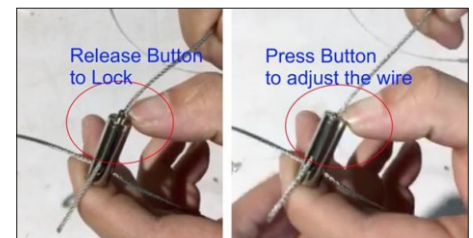

FIG. 2
5. Hang the fixture to the ceiling hook and adjust the length according to your height requirements. See Fig 2. for adjustment.